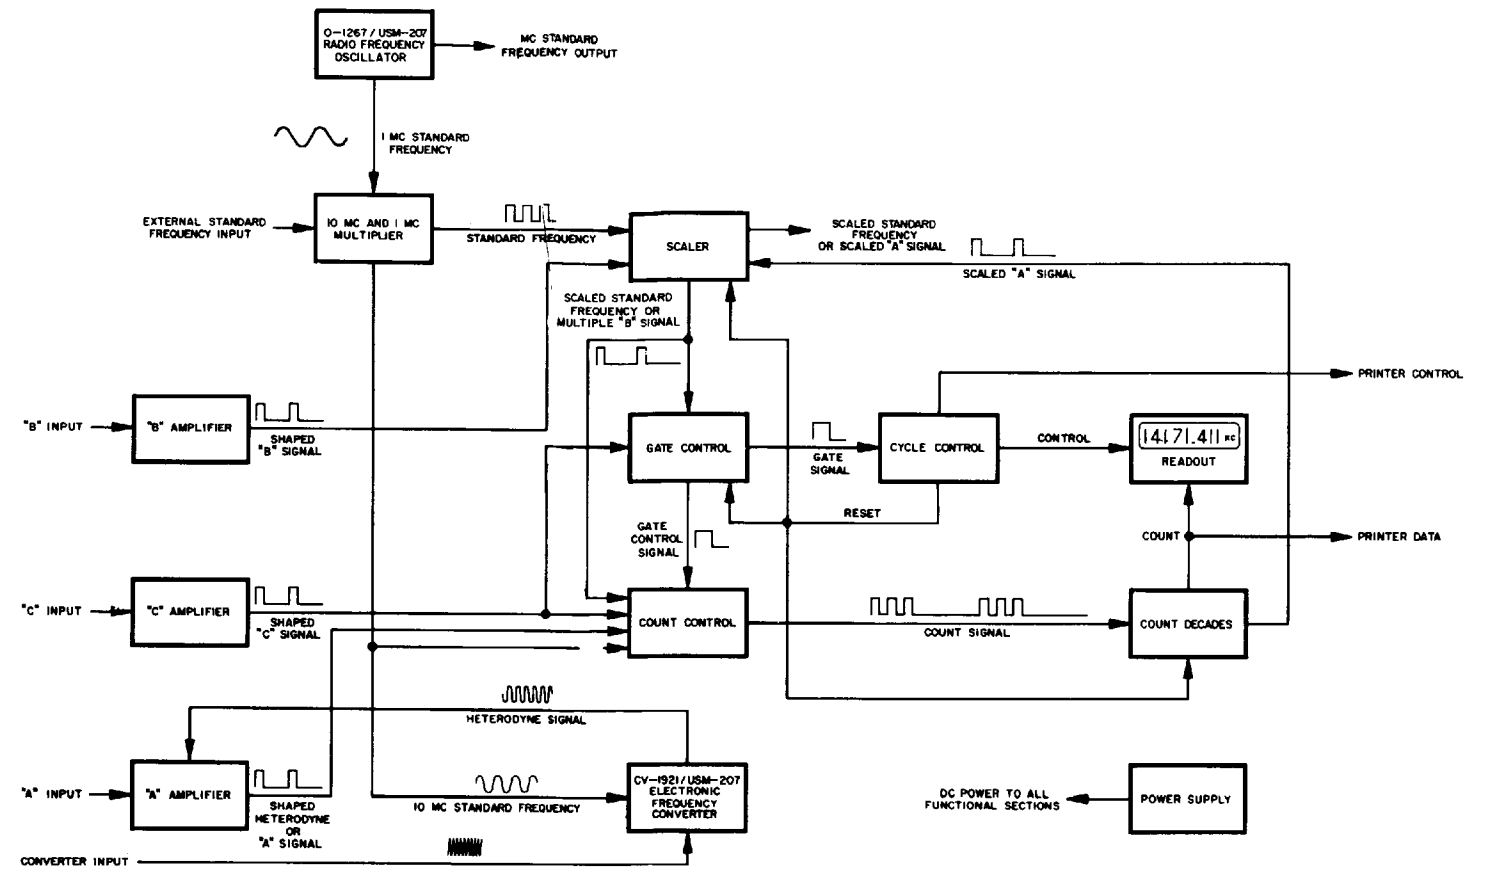

Figure 4-1. Digital Readout Electronic Counter AN/USM-207 Overall Functional Block Diagram
c. LISTING PROBABLE FAULTY FUNCTION. - A complete understanding of the equipment operating principles is especially important at this phase of the trouble-shooting procedure. With all information about the problem in mind, formulate a number of "logical choices" as to the cause and likely location of the malfunction. Confine each choice to a functional section of the equipment as shown in figure 4-1.
Figure 4-1 is the overall functional block diagram of the counter. The individual functional sections are constructed on one or more plug-in printed circuit boards. Any of these printed circuit boards may be removed from the counter for purposes of adjustment, trouble shooting, and replacement of parts. Basic operation of the counter is shown in figure 4-2. An overall logic diagram is provided in figure 4-3. To make a measurement, requires two types of information: a count signal, and a gate control signal. These two signals may be generated within the instrument or they may be supplied from outside sources. The type of measurement the counter will make depends upon the relationship of these two signals. However, in any function the instrument counts the count signal for a period of time determined by the gate control signal. Routing of these signals within the instrument is accomplished by logic circuits. These logic circuits are controlled by the operator by means of the front panel FUNCTION, time base, and SENSITIVITY switches. The output of each switch is a select voltage which operates one or more logic circuits in the counter. These voltages are referred to as F, T, and S select terms and are defined in table 4-1.